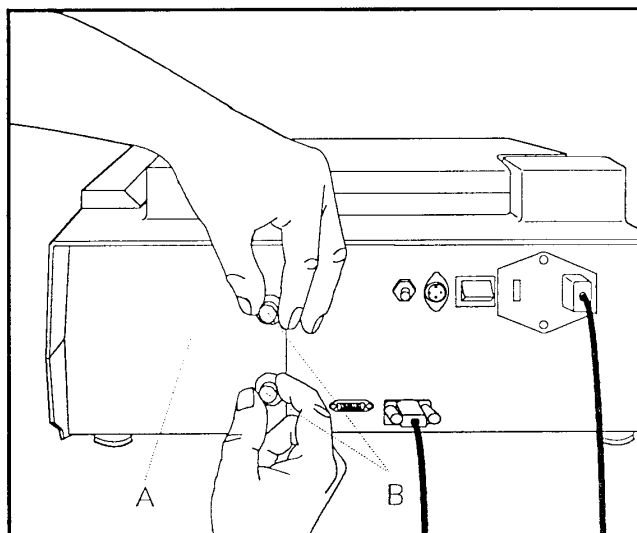

Figure 2-6. Installing the Battery.
1. Open the cardiograph's battery compartment by loosening the two thumbscrews on the back of the cardiograph (as shown in Figure 2-6), and pulling the battery holder out.
Figure 2-6 shows the M1700A; other models are similar.